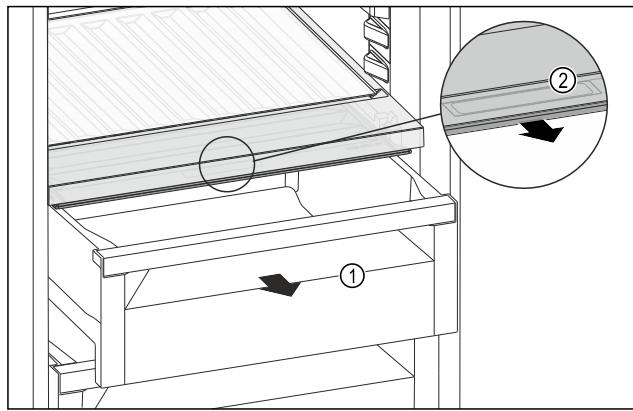

Fig. 148
- ▶ Pull out the drawer Fig. 148 (1).
- ▶ Grasp the recessed grip Fig. 148 (2) on the compartment lid and pull the compartment lid forwards at the same time.